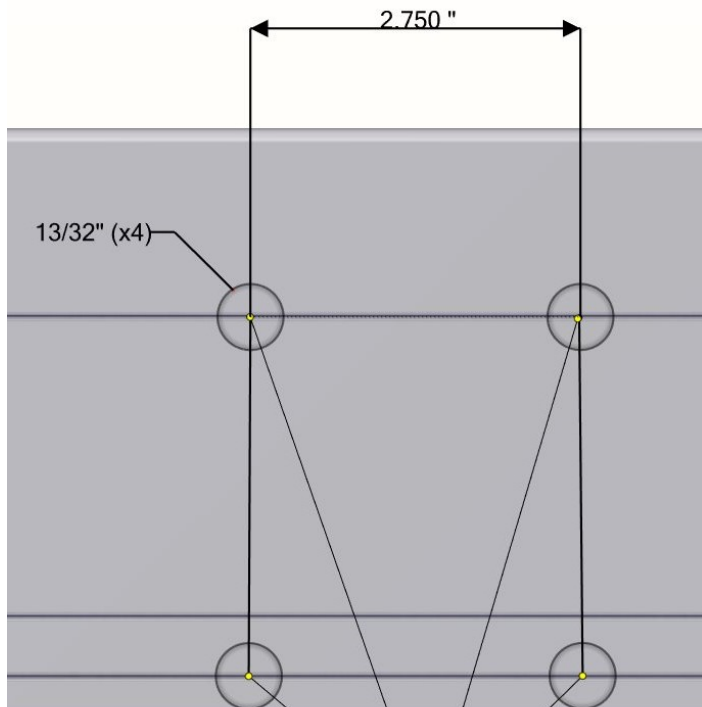

FIG. 3
MARK A SECOND LINE 2-3/4" FROM THE FIRST. USE A HAMMER AND PUNCH TO MAKE A DIMPLE FOR THE DRILL BIT AT THE INTERSECTIONS OF THE TOP AND BOTTOM SERRATIONS AND THE VERTICAL LINES (SEE FIGURE 3). THIS HELPS TO PREVENT THE DRILL FROM WANDERING WHILE DRILLING. DRILL (4) 13/32" HOLES. KEEP THE DRILL BIT PERPENDICULAR TO THE DOCK FRAME WHILE DRILLING.